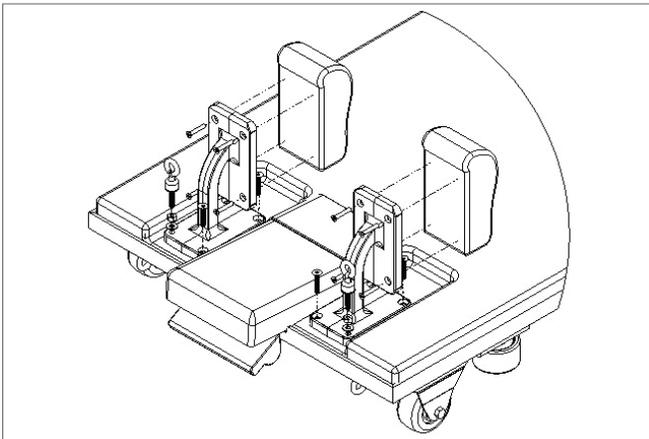

Figure 6
- Unscrew the screws that hold the shoulder pads to the shoulder supports, keep the screws. See Figure 6.
- Remove the screws that hold the shoulder supports to the carriage. Move the shoulder support from the old carriage to the new carriage as shown keeping it in the same orientation and position. Tighten all screws once on the plate, then repeat. Ensure the eyebolts end up in the same orientation as shown in Figure 6. Note: Shoulder pads must be removed first and re-installed last to allow access to the screws in the shoulder supports.